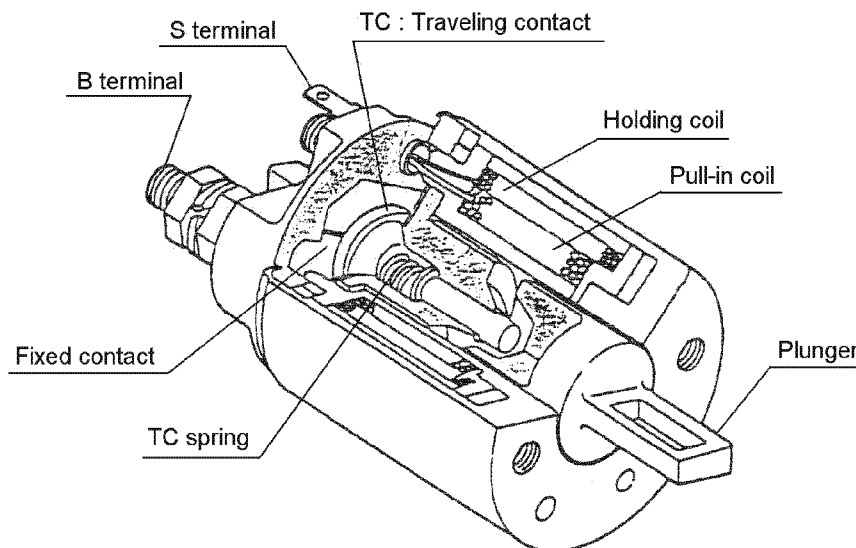
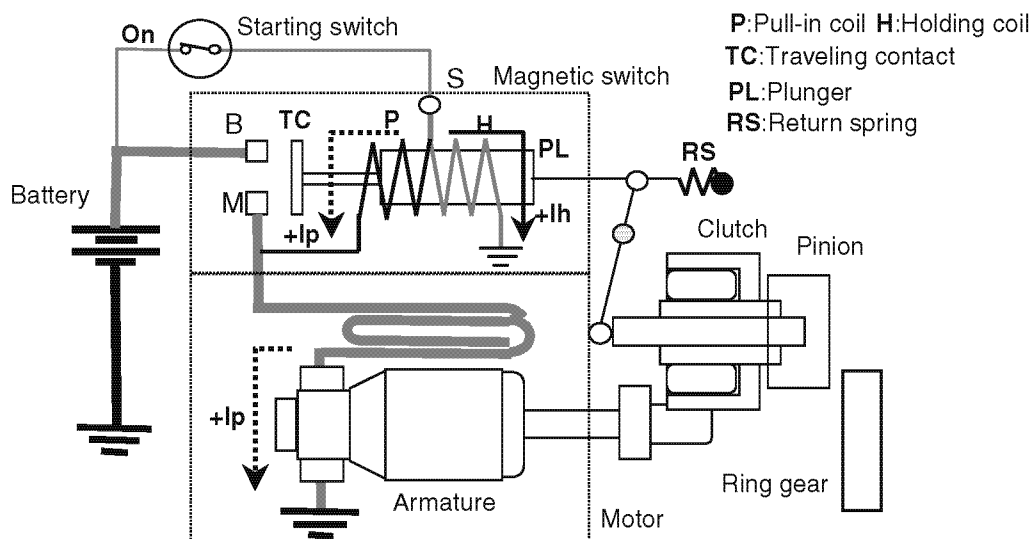
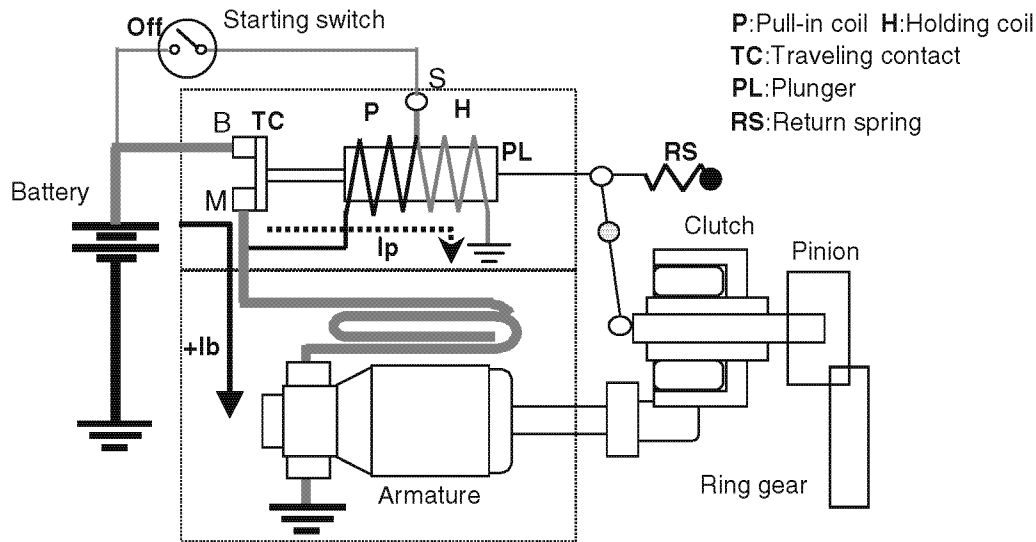

Figure 13-3
Figure 13-4
Figure 13-6
Figure 13-3 illustrates the magnetic starter solenoid. The magnetic switch has the following major functions:
Figure 13-4 shows the starter motor electric circuit to illustrate the movement of the pinion and the moving contact point, and the flow of current.
When the engine has started, the key switch automatically returns to the ON position. **Figure 13-6** shows the flow of current at this moment.
In the state shown in **(Figure 13-6)**, both coils are in series connection. Therefore, the magnitude of the current that flows through the coils is the same. However, the direction of the current in the pull-in coil is negative, and the one in the holding coil is positive.
Figure 13-4 shows that pull-in coil P is on the left side of the plunger and holding coil H on the right side. Actually, both coils are in a two-tiered structure as shown in **(Figure 13-3)**. Therefore, though **(Figure 13-4)** describes the flow of current to the left and right separately, it actually flows in the same direction in both coils. That is, the lines of magnetic force of both coils are in the same direction.
- The magnitude of current (I_p) that flows through both coils is the same. The number of turns (T) of both coils is also the same. Therefore, the magnitude of the magnetic force (M_f) produced by both coils ($M_f = I_p \times T$) is the same.
- The direction of the current that flows through pull-in coil P when the starter motor is cranking is left (positive) as shown in **(Figure 13-4)**. The direction of the current that flows through pull-in coil P when the key switch returns to the ON position is right (negative) as shown in **(Figure 13-6)**. On the other hand, the direction of the current that flows through the holding coil when the starter motor is cranking and when the key switch returns to the ON position is the same (positive).
According to (Figure 13-6), the pull-in and holding coils negate their magnetic force at the moment the key switch returns to the ON position. For details, read *When the Engine has Started* on page 13-11 and *Physical Characteristics of Coils and Their Structures* on page 13-11.